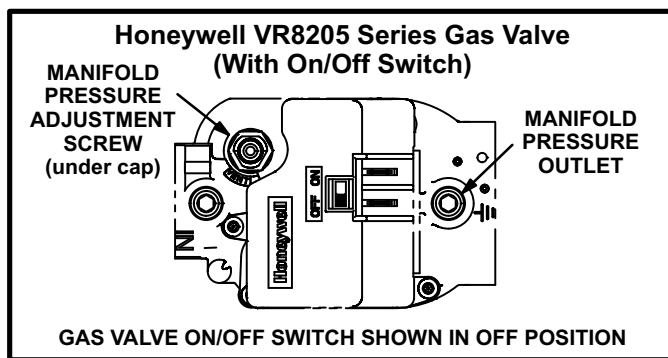

FIGURE 27
#### Gas Valve Operation (Figures 27, 28 and 29)
- 6 - *Honeywell VR8205 Gas Valve with ON/OFF Switch* - Move gas valve switch to **OFF**. See figure 27.
- 8 - *Honeywell VR8205 Gas Valve with ON/OFF Switch* - Move gas valve switch to **ON**. See figure 27.
- 4 - *Honeywell VR8205 Gas Valve with ON/OFF Switch* - Move gas valve switch to **OFF**. See figure 27.
- 2 - After the line pressure has been checked and adjusted, check the manifold pressure. A natural gas to LP/propane gas changeover kit is required to convert the unit. Manifold pressure for all units is given in table NO TAG. See figures 27, 28 and 29 for the location of the manifold pressure adjustment screws.